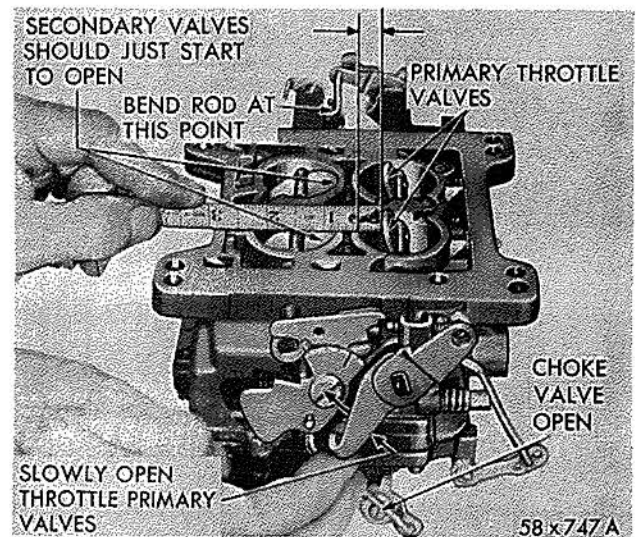

Fig. 10 Checking Secondary Throttle Opening
(1) To check the secondary throttle lever adjustment, block the choke valve in the wide open position and invert the carburetor.
(2) Slowly open the primary throttle valves until it is possible to measure 19/64 inch between the lower edge of the primary valve and the bore (opposite idle port), as shown in Figure 10. At this point, the secondary valves should just start to open.